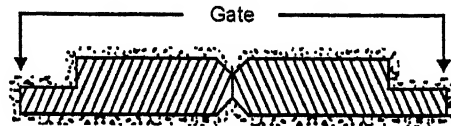

Fig. 8.29. Cold shut.
**3. Cold shut :** Refer to Fig. 8.29.